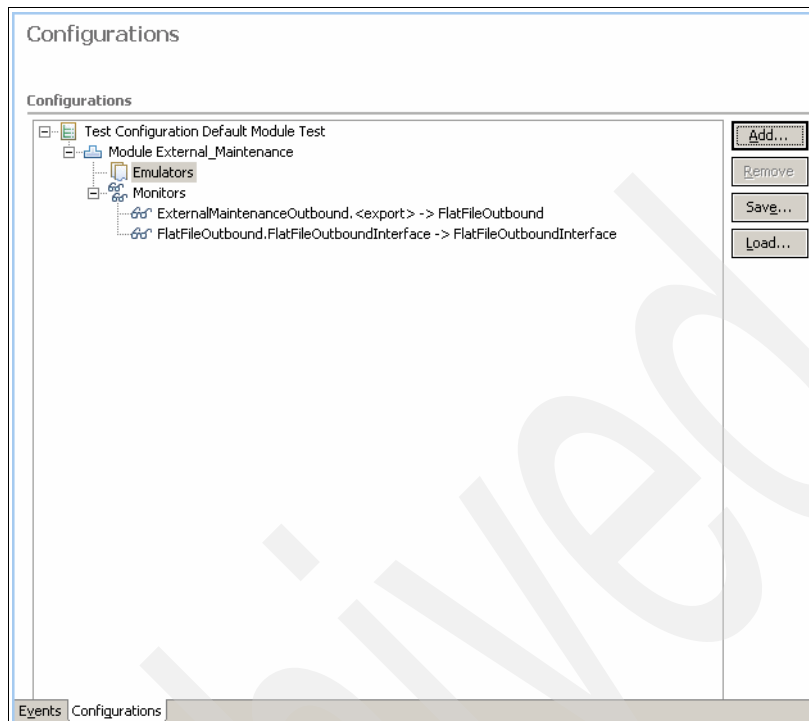

Figure 2-47 Remove emulators
6. Go to **Configurations** tab and remove the all of the emulators on the Emulator tab (Figure 2-47 on page 53).